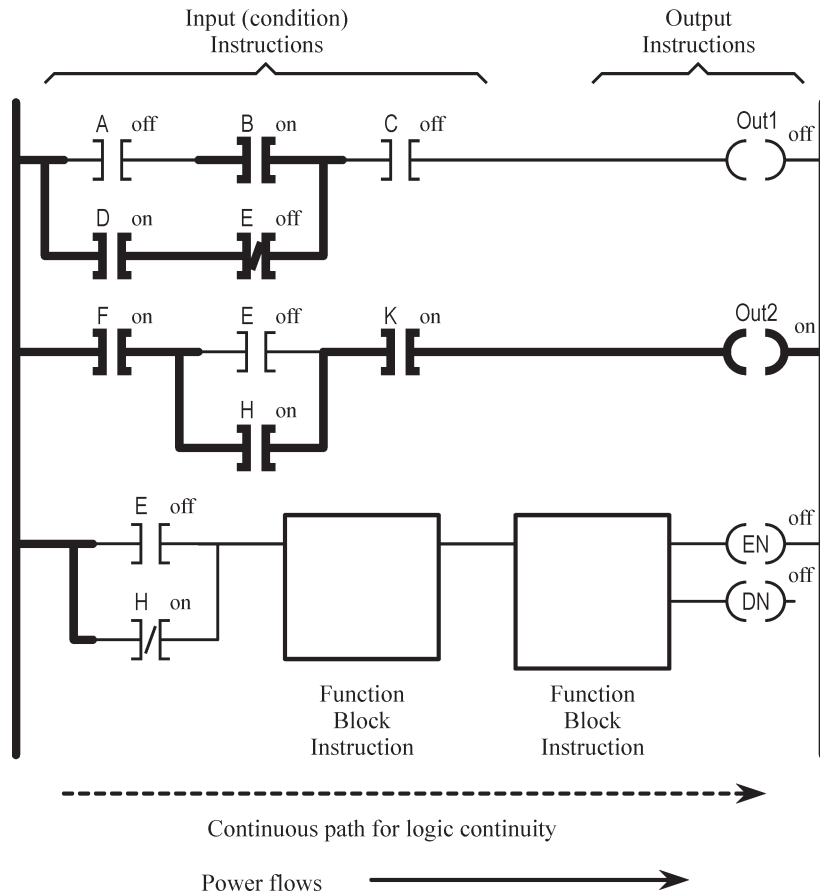
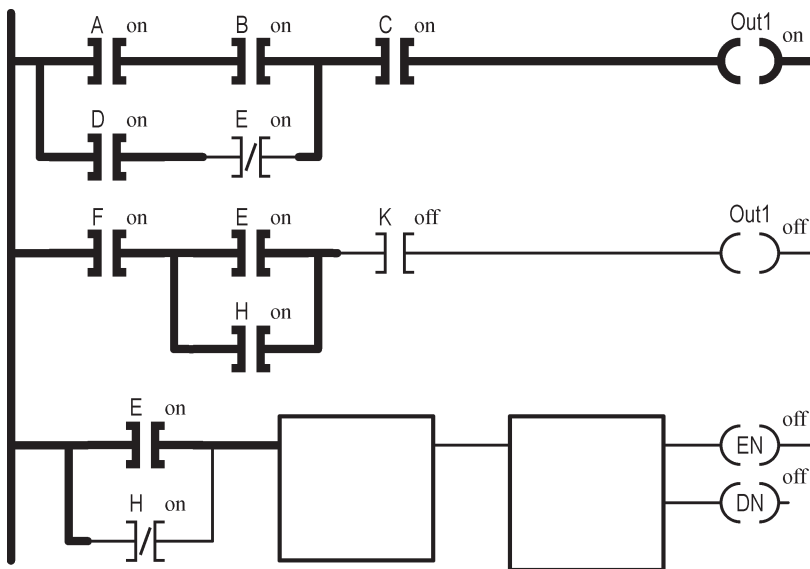
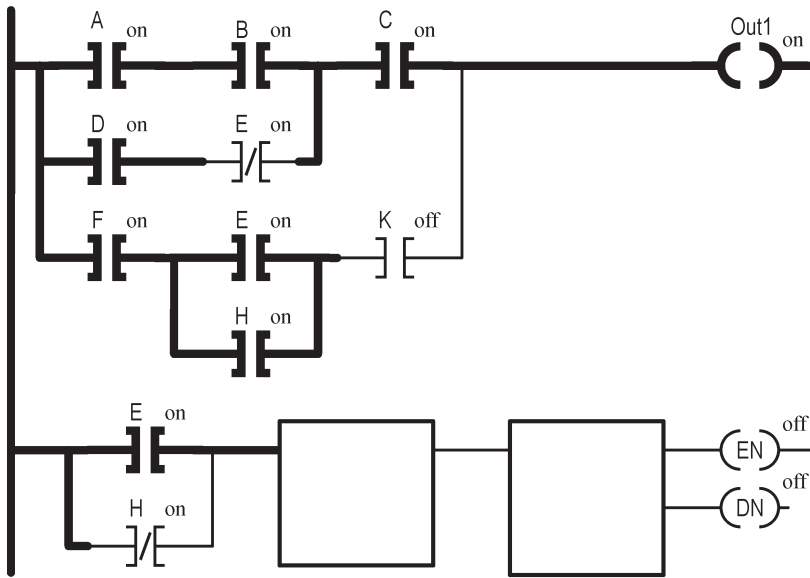

Figure 2.9. Sample ladder logic diagram.
Figure 2.14. Ladder logic with repeated output.
Figure 2.15. Repeated output corrected.
An example PLC ladder logic diagram appears in Figure 2.9. The vertical lines on the left and right are called the power rails. The contacts are arranged horizontally between the power rails, hence the term *rung*. The ladder diagram in Figure 2.9 has three rungs. The arrangement is similar to a ladder one uses to climb onto a roof. In addition, Figure 2.9 shows an example diagram like one would see if monitoring the running program in the PLC. The thick lines indicate continuity and the state (**on/off**) of the inputs and outputs is shown next to the tag. Regardless of the contact symbol, if the contact is closed (continuity through it), it is shown as thick lines. If the contact is open, it is shown as thin lines. In a relay ladder diagram, power flows from left to right. In PLC ladder logic, there is no real power flow, but there still must be a continuous path through closed contacts in order to energize an output. In Figure 2.9 the output on the first rung is **off** because the contact for C is open, blocking continuity through the D and E contacts. Also notice that the E input is **off**, which means the NC contact in the first rung is closed and the NO contact in the second rung is open.
Figure 2.9 also introduces the concept of *function block instructions*. Any instruction that is not a contact or a coil is called a function block instruction because of its appearance in the ladder diagram. The most common function block instructions are timer, counter, comparison, and computation operations. More advanced function block instructions include sequencer, shift register, and first-in first-out operations.
1. **DO NOT** repeat normal output coils or latch/unlatch coils that refer to the same tag. To illustrate what happens when this is done, consider the ladder logic diagram in Figure 2.14. This is the ladder of Figure 2.9, modified for this illustration. Note that the coils for both the first and second rung refer to Out1. When the first rung of the ladder is scanned, Out1 is turned **on**. However, when the second rung is scanned, Out1 is turned **off**, overriding the logic in the first rung. If all of these conditions are needed to turn on Out1, then they all should be placed in parallel, as in Figure 2.15. In this illustration, it was obvious there is a problem. Normally, when this problem occurs, the rungs are not adjacent, and it is not so obvious. Fortunately, all Allen-Bradley PLC programming software warns about this situation. Still, the best way to prevent this problem is to consider the output coil **first** and then consider all of the conditions that drive that output.